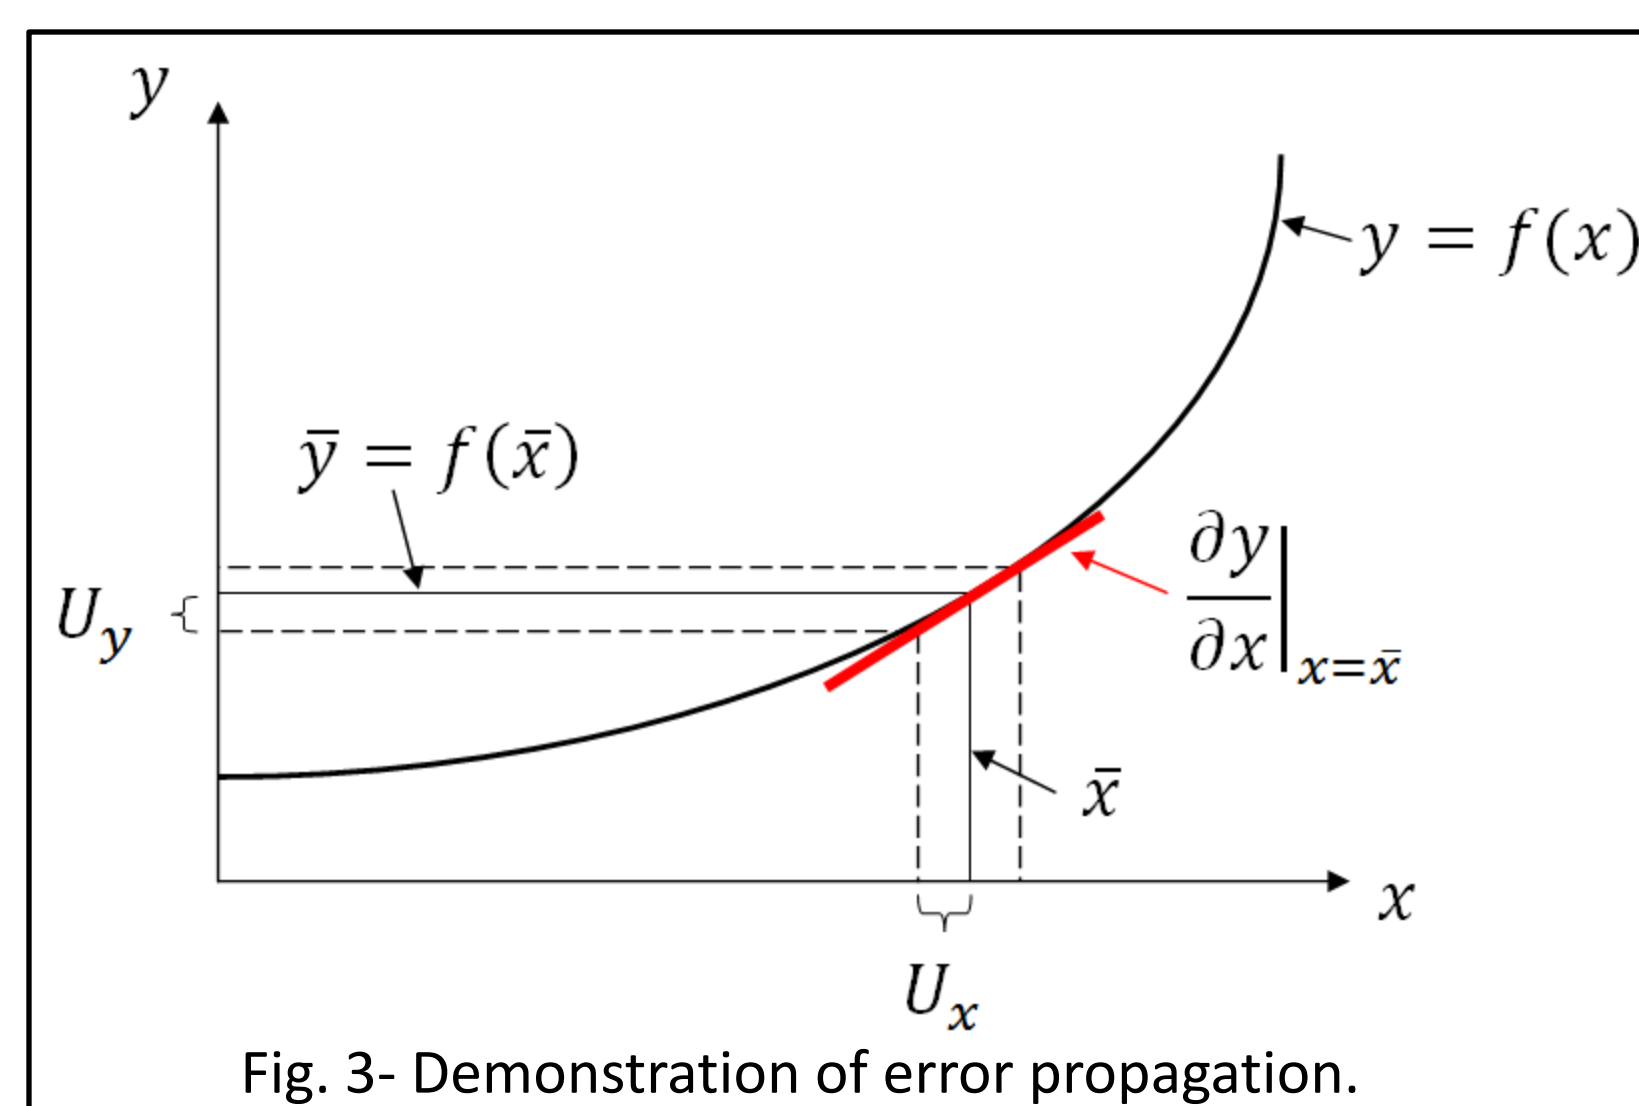

Fig. 3- Demonstration of error propagation.
- Error propagation can be estimated from a Taylor series expansion (see Fig. 3) of the Seebeck and resistivity functions[3].